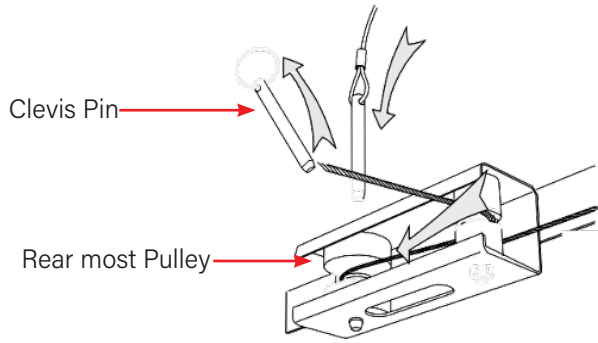

Figure 14.4
- In the upper corner, locate the two pulleys. (see Figure 14.4 Pulley-Unit)